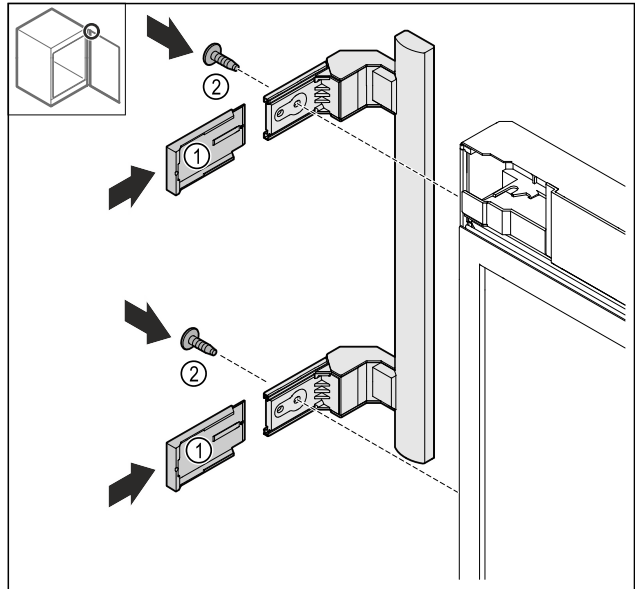

Fig. 26
- ▶ Push the covers Fig. 26 (1) on.